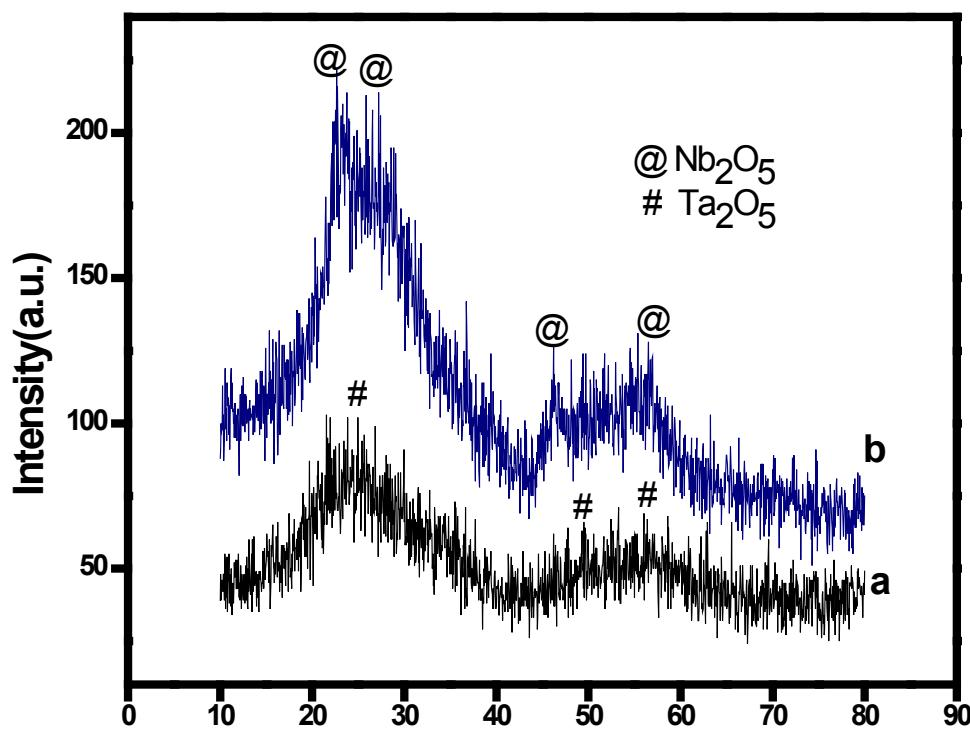

Figure S1
**Figure S1:** XRD patterns of precursor of (a)  $\text{Cd}_2\text{Ta}_2\text{O}_7$  and (b)  $\text{Cd}_2\text{Nb}_2\text{O}_7$  obtained hydrothermally at 180°C for 48h